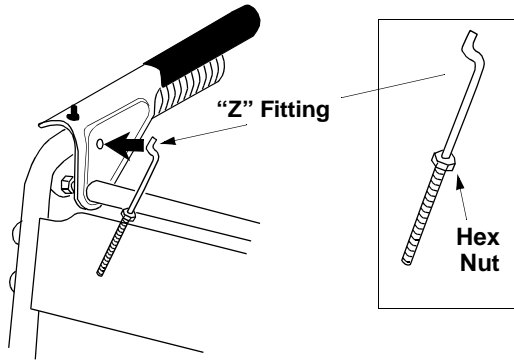

Figure 6
- Thread hex nuts onto the "Z" fittings (see insert.). Insert "Z" fitting into hole in clutch grips. See Figure 6.